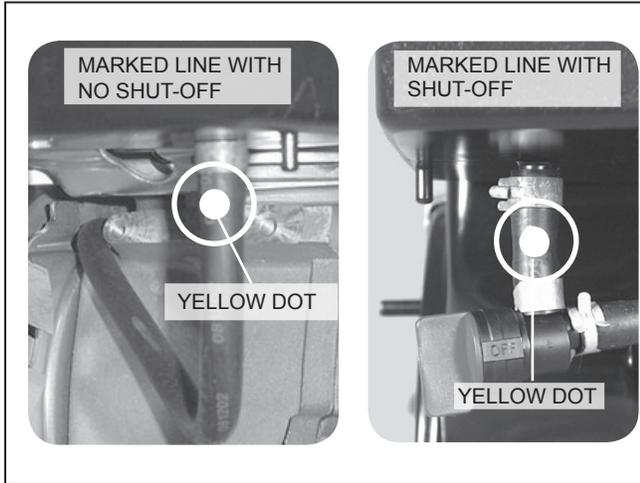

Figure 3
2. Engines in the affected D.O.M. range that have been repaired will have a **YELLOW** paint mark on the fuel line, adjacent to the fuel tank outlet (fig. 3).
7. Next use a permanent **YELLOW** paint marker to place a dot on the line as shown in (fig. 3) to mark the unit as repaired. These paint markers are available at many hardware or automotive stores.